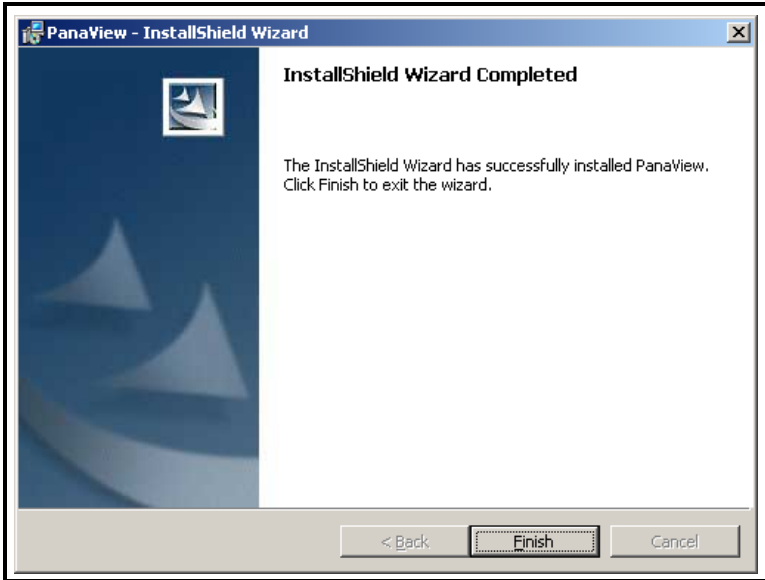

Figure 2-11: Setup Complete Screen
9. When all of the PanaView files have been copied to your hard drive, the screen shown in Figure 2-11 below appears. Click on the [Finish] button to close the InstallShield Wizard.